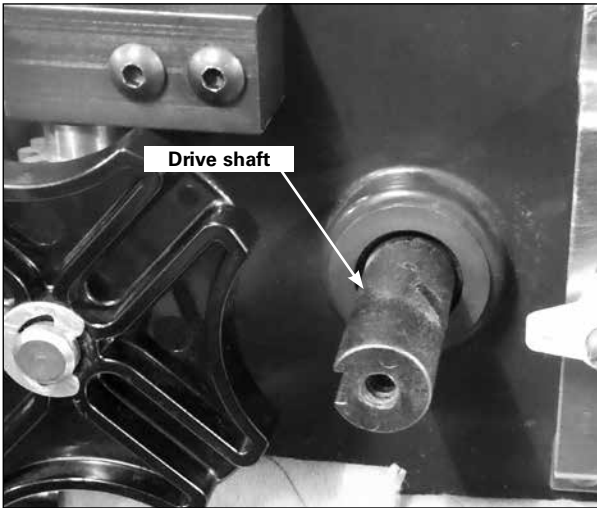

Figure 3. Tap changer drive shaft
3. Pull the cam from the tap-changer drive shaft. See Figure 3.